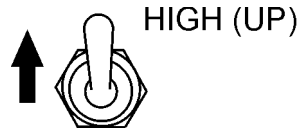

Figure 30. Engine Speed Switch (High)
7. If the engine is running smoothly, place the engine speed switch (Figure 30) in the **HIGH** (up) position.